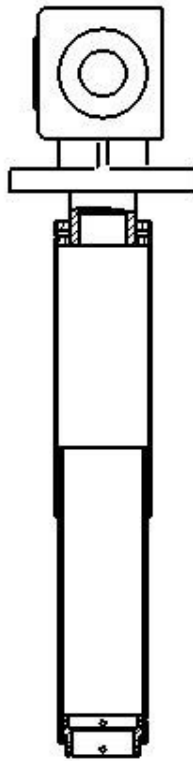

Figure 26
6.5.2 Installation of vertical protective cover (Figure 26)